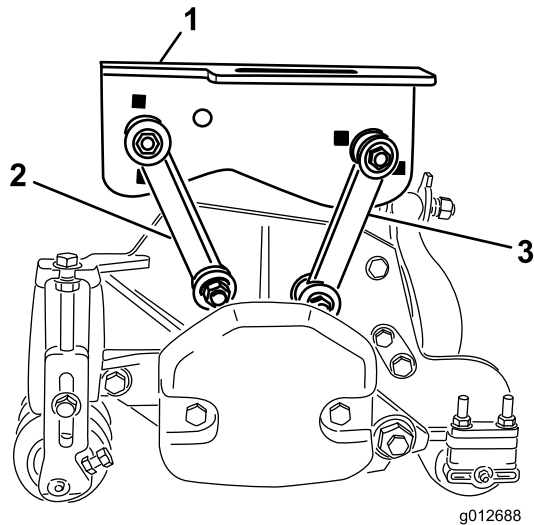

Figure 17
- Secure the front mounting links to the middle carrier frame holes with a bolt (3/8 x 2-1/4 inch), 2 flat washers, and a locknut, as shown in Figure 17. Position a washer on each side of the link when mounting. Torque the fasteners to 31 ft-lb (42 N-m).
- Secure the rear mounting links to the middle carrier frame holes with a bolt (3/8 x 2-1/4 inch), 2 flat washers, and a locknut, as shown in Figure 17. Position a washer on each side of the link when mounting. Torque the fasteners to 31 ft-lb (42 N-m).